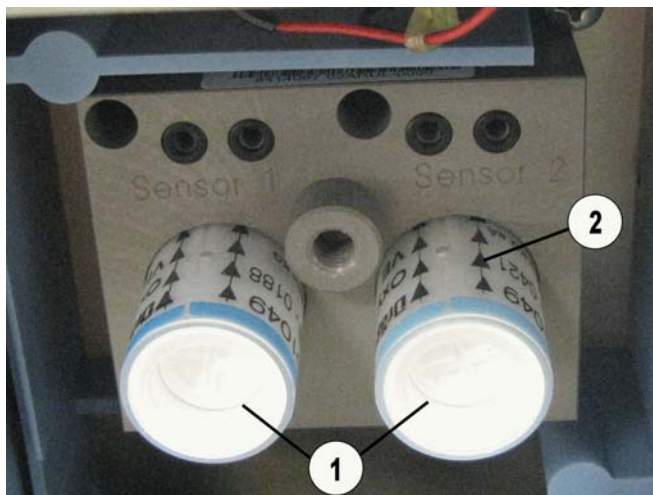

Fig. 35 View of O2 sensor mount; O2 sensors
1. Push the O2 sensors (Fig. 35/1) with the arrow markings (Fig. 35/2) pointing upwards into the mounts and turn them lightly a short distance until the O2 sensors slide into the corresponding mounts.